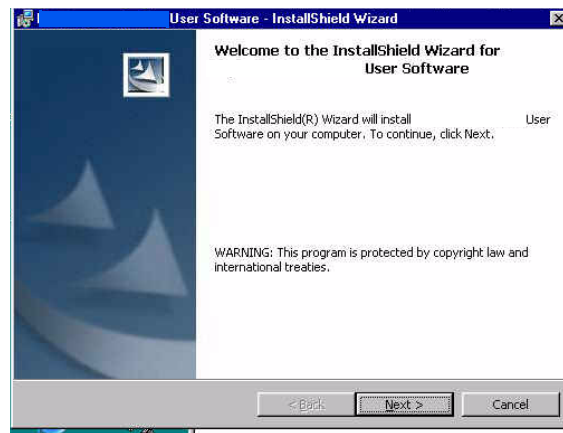

Figure 11: Installation Wizard Screen
3. The Install Wizard screen (See Figure 11) will appear. After reading the information, Click **Next>** to continue or **Cancel** to Quit the installation.